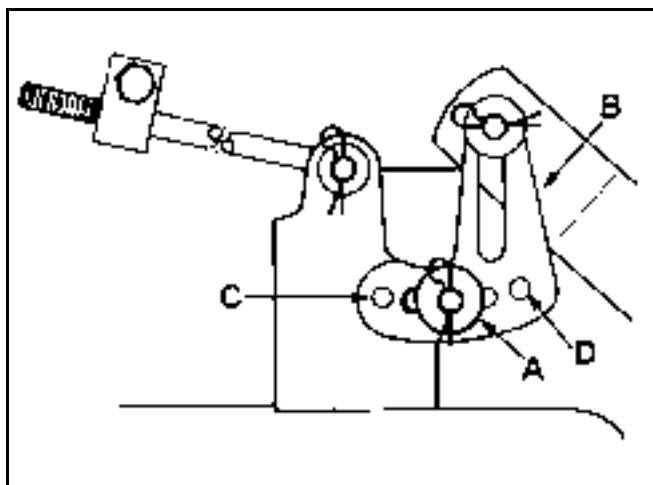

Figure 242 1805-2
5. Remove the hairpin cotter and washer from the leveling bracket (Figure 242). To level the blade(s), reposition the leveling bracket(s) in a different hole and install the washer and hairpin cotter (Figure 242). A front hole lowers the blade height and a rear hole raises its height. Adjust both sides as required.